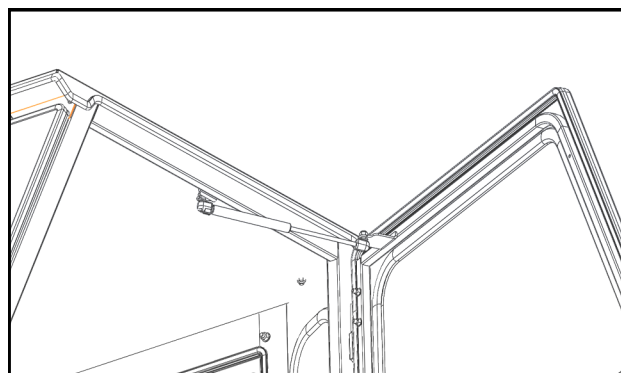

Fig. 18.6 (Gas Struts)
- 18.6** See fig. 18.6. With the door open, attach a gas strut to the ball studs on the side frame and door. Make sure the quick release end is on the side frame so that the gas strut stays with the door if removed for ventilation.